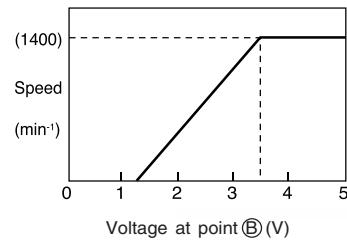

Fig. 7-3
- The pulse is converted into the analog voltage by the R751 and C751 and applied to the fan motor as the speed command voltage. Fig. 7-3 shows the relation between the voltage at the point ⑩ and the speed. (Some differences will occur due to the condition of the unit.)
- The fan motor outputs the feedback pulse of the speed, which is input into the pin ⑪ on the micro computer. This pulse is equivalent to a frequency of 12/60 speed. (Example:  $1000 \text{ min}^{-1} \times 12/60 = 200 \text{ Hz}$ )